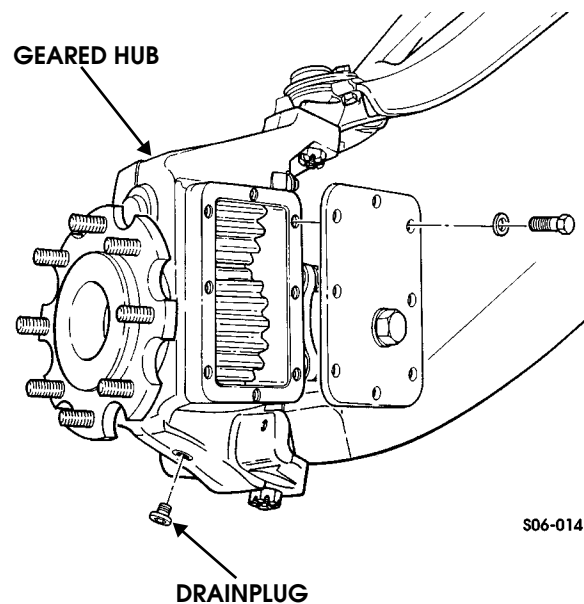

Figure 9-39: Geared Hub Drainplug Location
2. Remove drainplug and drain geared hub oil. Install drainplug into geared hub. Tighten drainplug to 8-13 lb-ft (11-18 N•m) (Figure 9-39).